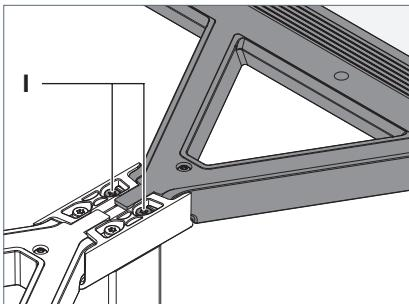

Fig. 21: Adjusting the luminaire head.
- To lower a luminaire head, turn the screws I which are holding this luminaire head anti-clockwise, see Fig. 21.